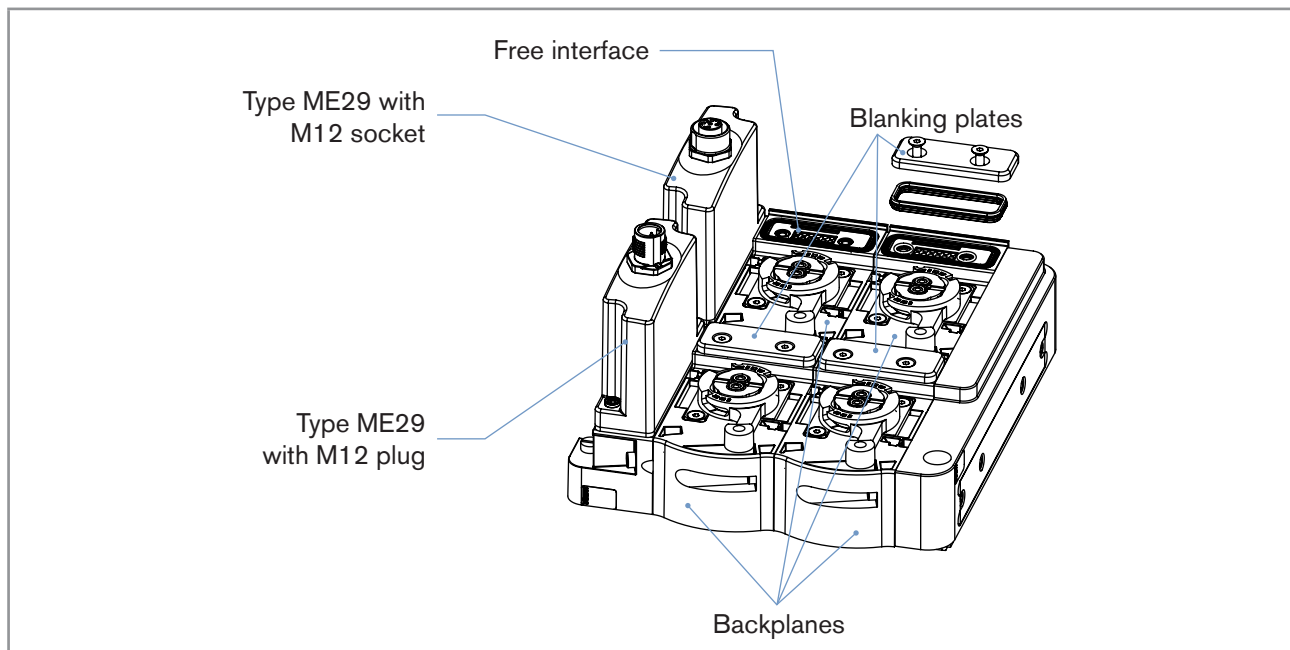
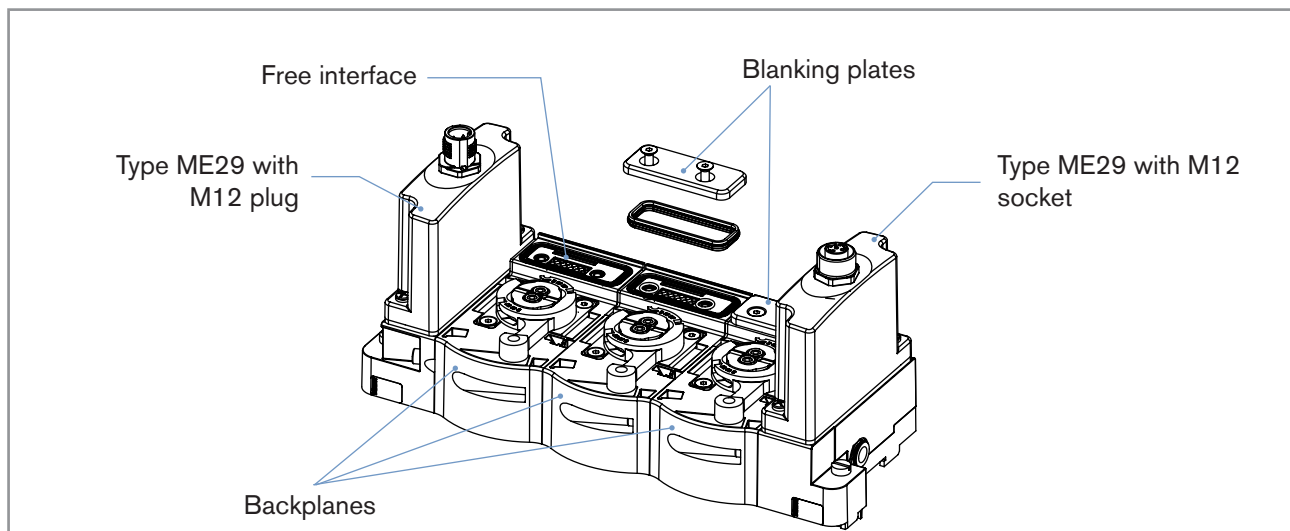

Figure 5: Backplanes for the product; arrangement and fitting of a 4 backplane combination
Figure 6: Backplanes for the product; arrangement and fitting of a 3 backplane combination
The 4 backplanes must be arranged and fitted as illustrated in Figure 5. The 3 backplanes must be arranged and fitted as illustrated in Figure 6.
- ▶ Make sure that each of the blanking plates illustrated in Figure 5 or in Figure 6 is equipped with a seal.
- ▶ Make sure that the blanking plates illustrated in Figure 5 or in Figure 6 are screwed on the correct electrical interfaces of the backplanes.